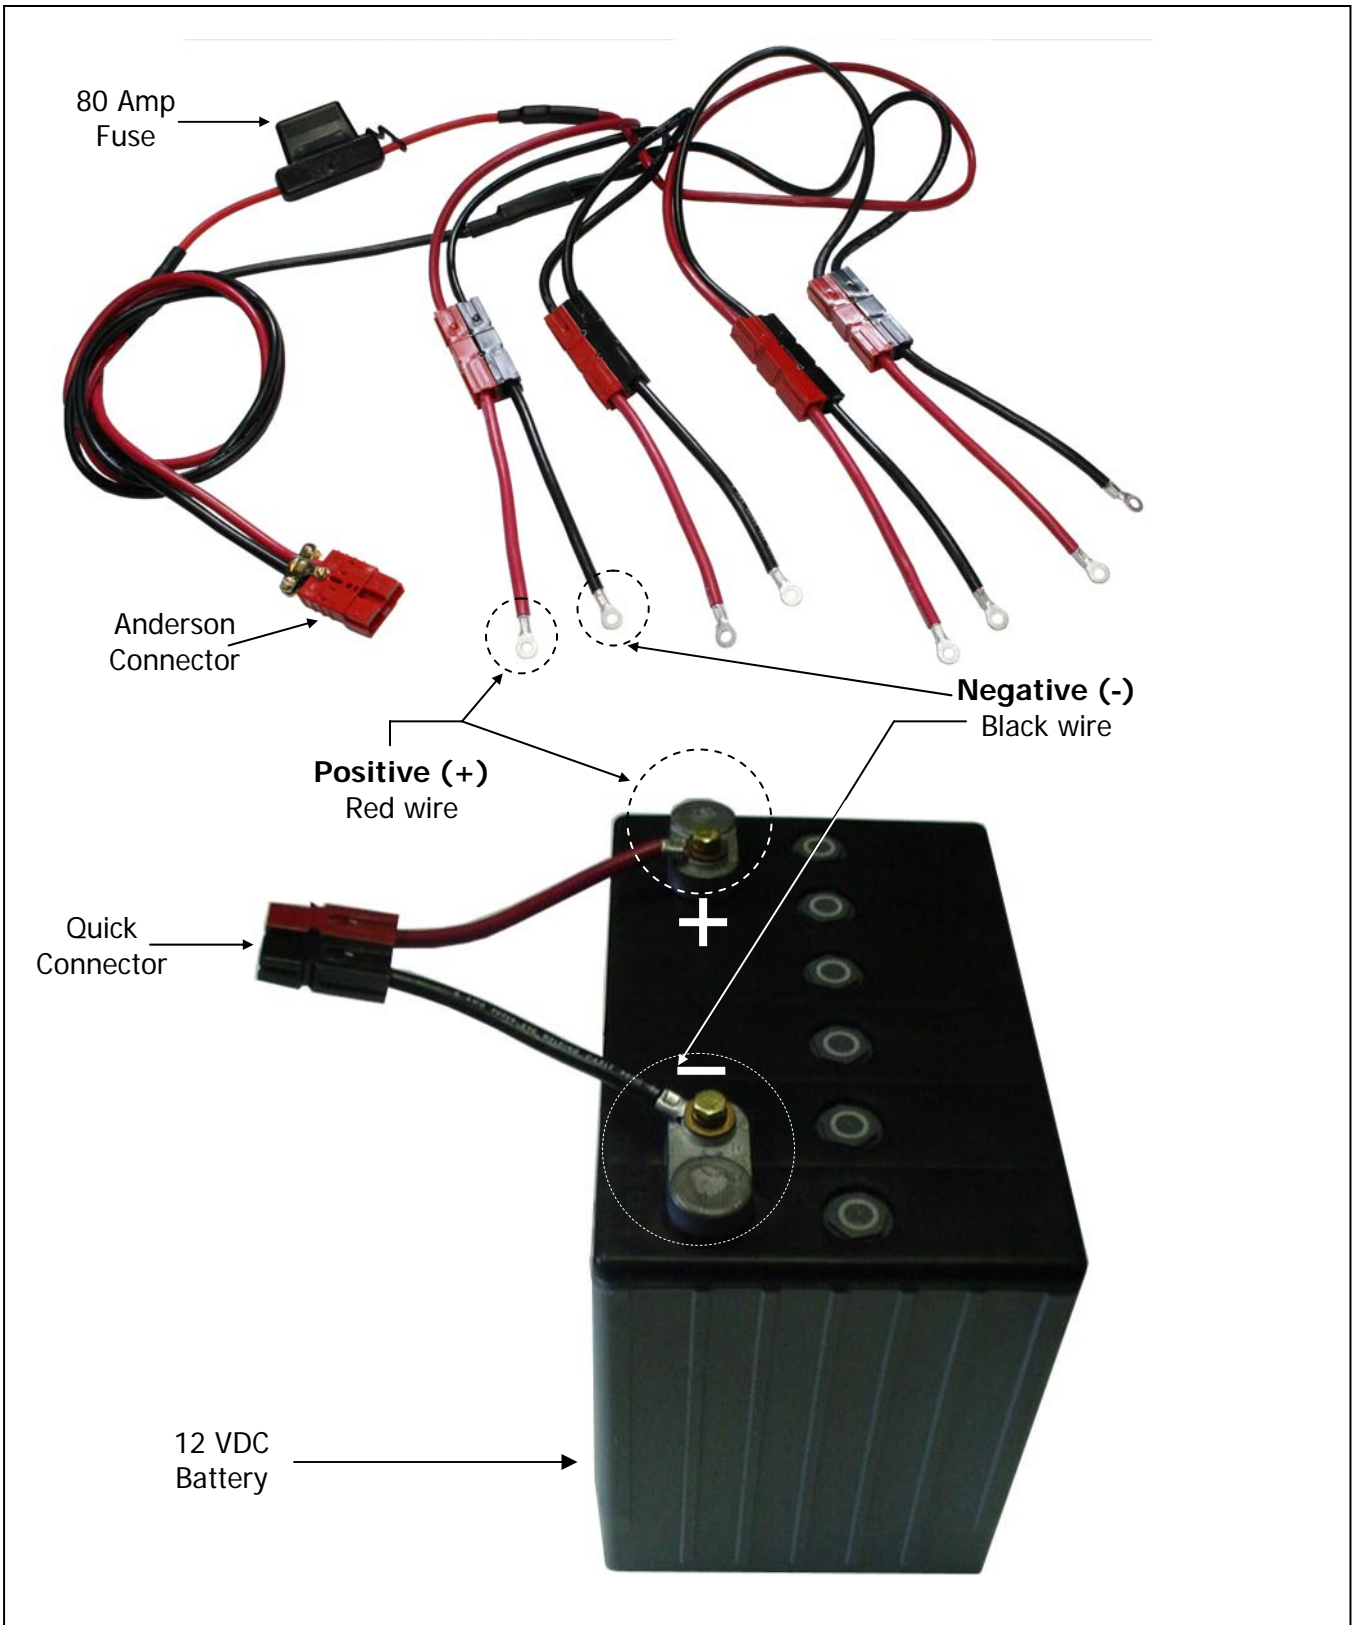

FIGURE 1: Battery wiring
- Refer to Figure 1, Page 14. Using one of the four quick connector wire sets provided connect the red wire to the positive post of the first battery. Connect the black wire to the negative post of the same battery.